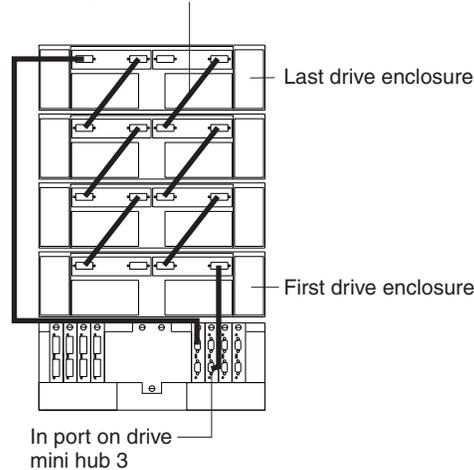

Figure 47. Connecting redundant drive loops to the FAST900 Storage Server
2. Connect drive loop B to the FAST900 Storage Server, as shown in Figure 47. Starting with the first drive enclosure in the loop, connect the Out port on the right ESM board to the In (lower) port on drive mini hub 3. Leave the In port on the right ESM board on the last drive enclosure and the Out (upper) port on drive mini hub 3 unoccupied.